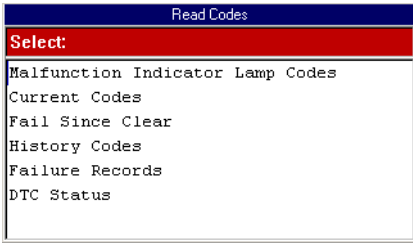

Figure 3.10: GM / Saturn Read Codes Screen
- If the selected ECM stores more than current codes, the Read Codes screen appears (see Figure 3.10). Continue with the next step.